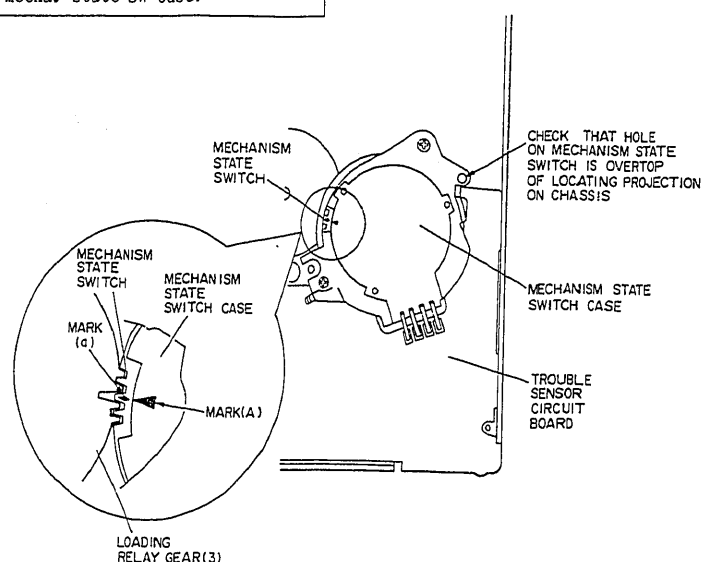

Fig. 3-1
#### 3-1. Mechanism State Switch [Mecha. State Sw] (Fig. 3-1)
### 3-1. Tension Pole Position/Tension Torque Adjustments (Fig. 3-1)
Adjustment procedure ◆ Tension pole position adjustment (Fig. 3-1) 1) Hook the tension spring to position (B) of the tension spring holder. 2) Loosen screw (D) holding tension band holder (E). 3) Adjust the position of tension band holder (E) so the relationship between the hole in the tension arm and guide roller rail is as shown in Fig. 3-1. 4) Tighten screw (D). 5) Repeat playback and stop several times and check that the specification in step 3) is satisfied. If it is not satisfied, re-adjust the tension pole position. ◆ Tension torque adjustment (Fig. 3-1) 1) Hook the tension spring to position (B) of the spring holder. 2) Set the tension torque on the supply side to 4.5 - 5.5 g-cm. If it is more than 5.6 g-cm: Move the tension spring to position (A) of the spring holder. If it is less than 4.4 g-cm: Move the tension spring to position (C) of the spring holder.